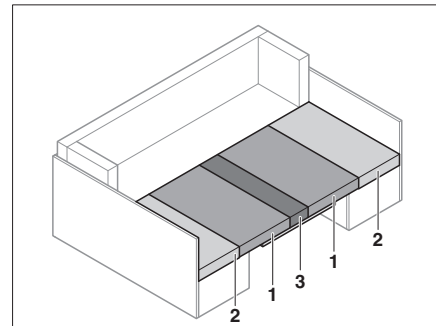

Fig. 71 After conversion
- Pull the seat cushions (Fig. 71,1) into the centre.
- Insert the back cushions (Fig. 71,2) between the seat cushions (Fig. 71,1) and the exterior wall.
- Insert the additional cushion (Fig. 71,3) onto the table between the seat cushions (Fig. 71,1).